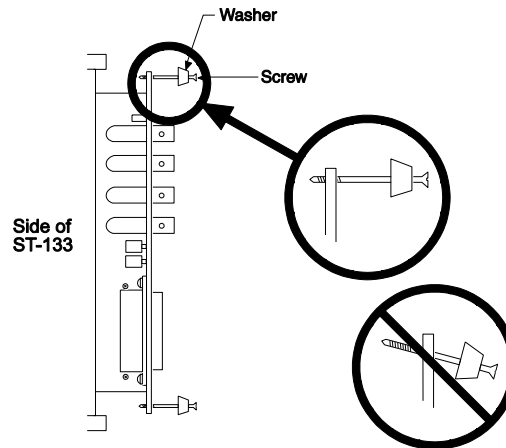

Figure 66. Module Installation
3. Rotate the two locking screws counterclockwise until the threads on the screws engage those of the module panel. *See Figure 66.* By doing this, the screws will be perfectly perpendicular to the module panel and will align perfectly when the module is inserted.